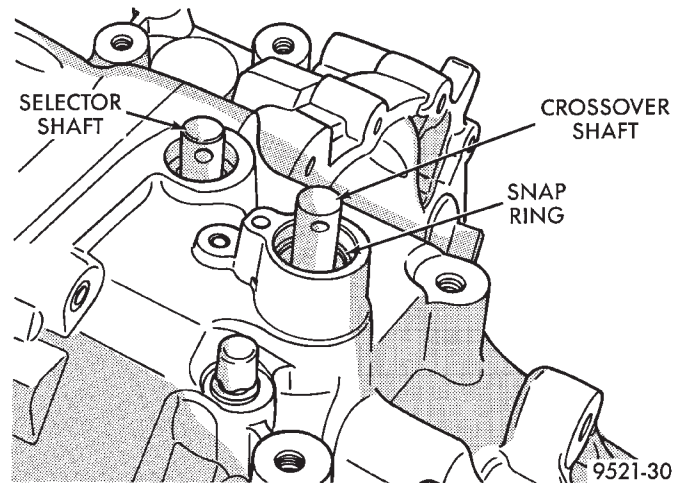

Fig. 143 Crossover Shaft Snap Ring
- (1) Disassemble transaxle using the procedure outlined in this group.
- (2) With the transaxle disassembled, remove the crossover shaft seal.
- (3) Using snap-ring pliers, remove the snap ring at the crossover shaft bore (Fig. 143).